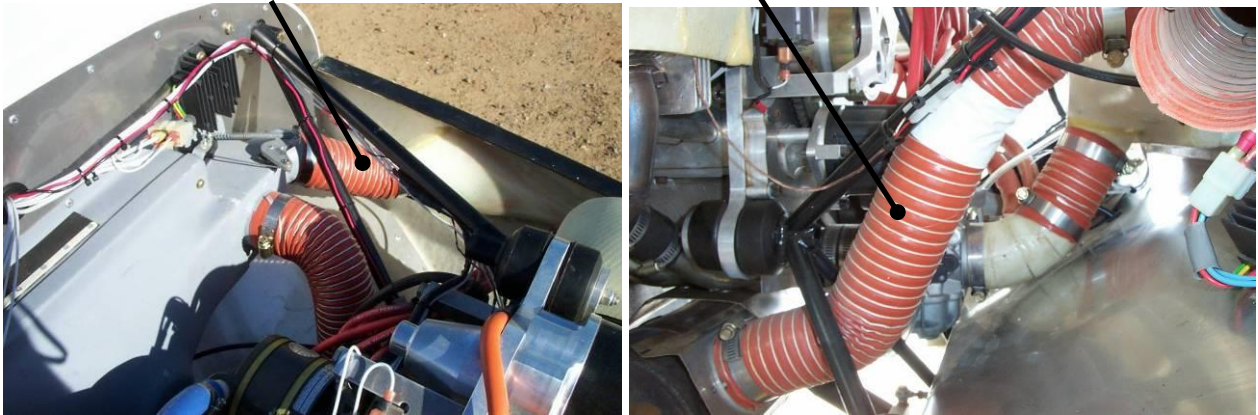

Figure 46. SCAT Hose Detail
- Fit Scat hoses from NACA duct to Air Inlet Housing Assembly, from hot air muff to carburettor heat inlet on the hot air mixer box and from the hot air mixer box to carburettor – shown in Figure 46.